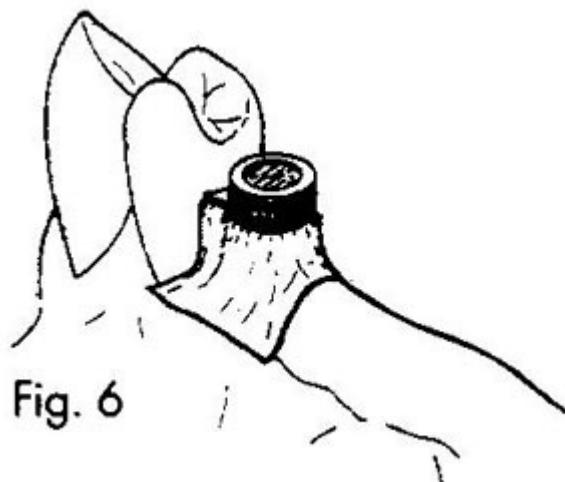

Fig. 6
3. **Block out the gingival space underneath the attachment (FIG 6).** Light cure the ZAAG male into the denture, or mix self curing acrylic resin and place a small amount in the recess of the partial denture, and around the top of the metal cap.